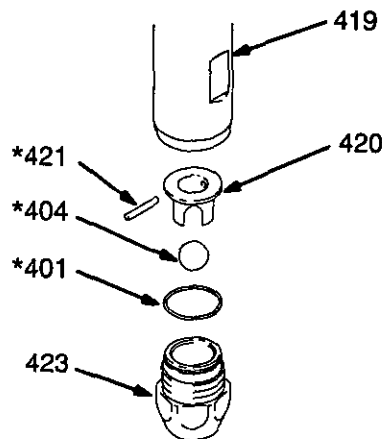

Fig. 26
2. Disassemble the intake valve (423). See Fig. 26.